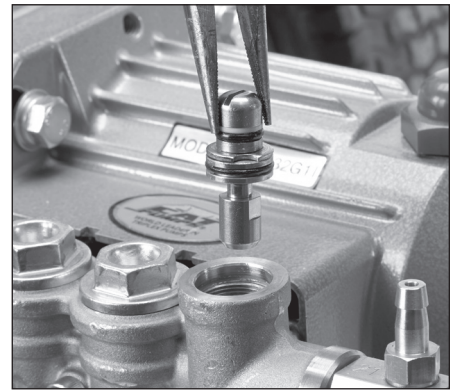

Figure 14
5. Use a needle nose pliers to remove complete piston assembly (See Figure 14).